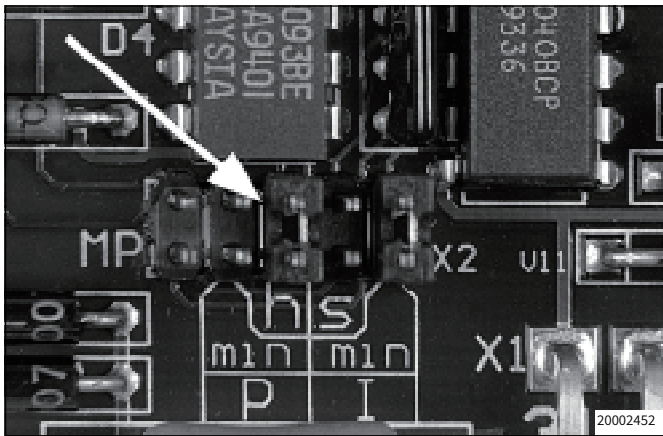

Fig. 5 - Preselection of the time range
- The time ranges can be modified by replugging the jumper (Fig. 5) on the printed circuit board.